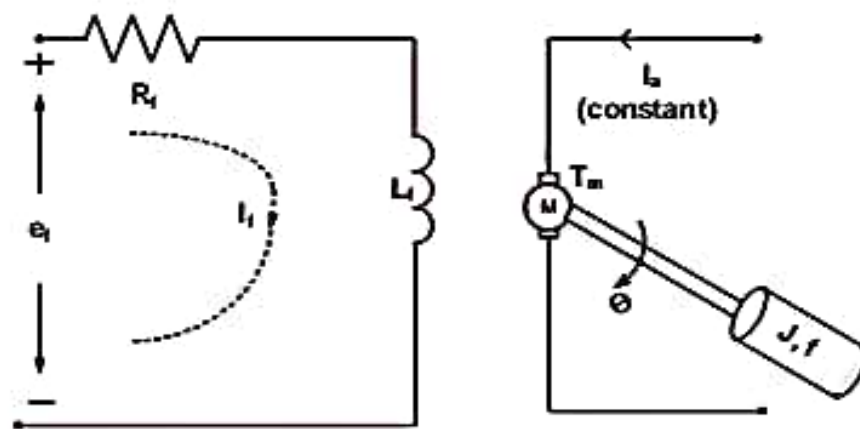

Fig.4.8. Block diagram of field control type speed control system of a DC motor
**4.5. Mathematical model of field controlled DC motor:** The field control type speed control system of a DC motor is shown in Fig.4.8. The following components are used in this system.